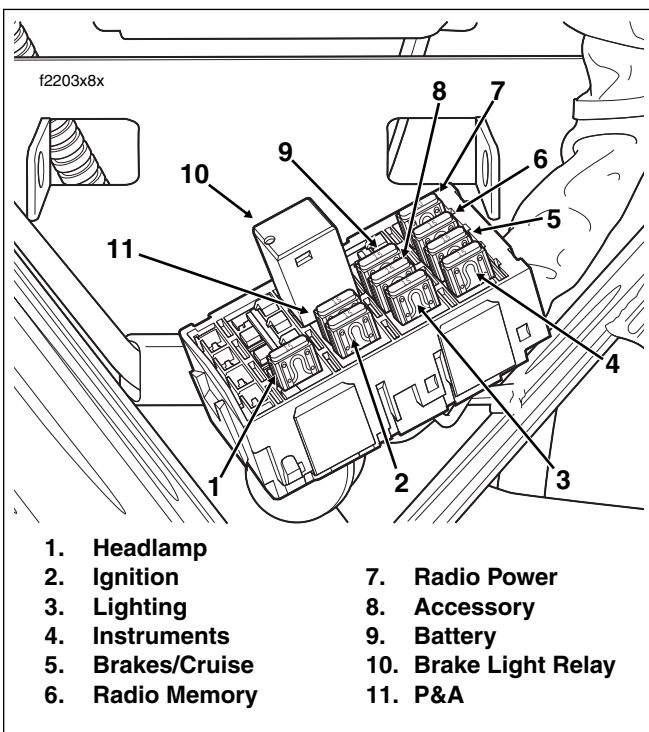

Figure 8-5. Fuse Block (FLHX, FLHTC/U, FLTR)
- Remove system fuse/relay from fuse block. Replace fuse if the element is burned or broken. Automotive type ATO fuses are used. See Figure 8-5.
- Install system fuse/relay in fuse block. See Figure 8-5.